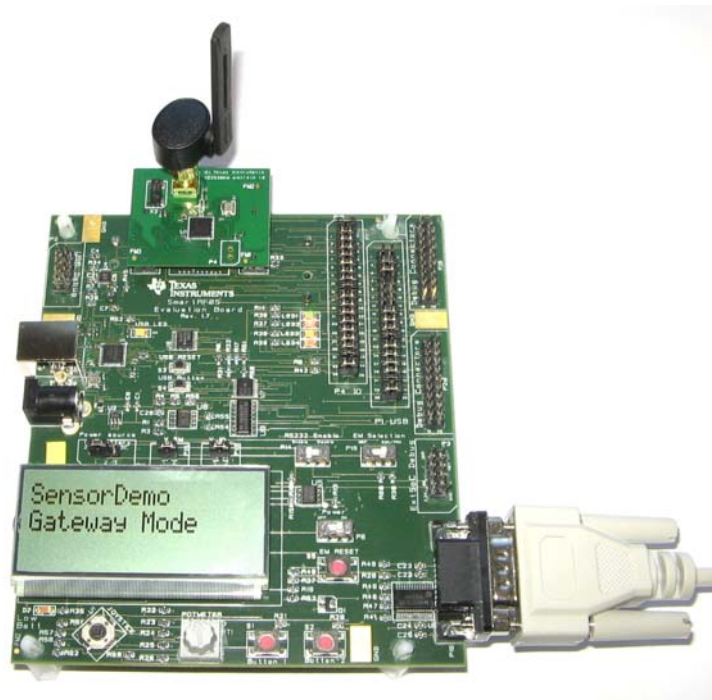

Figure 2 Gateway Node with serial cable
4. Press **joystick right** on the gateway node. This will let the node accept application binding requests from other nodes. LED 2 will be set ON to indicate that the node is accepting bind requests. The LCD on the EB board will display "Gateway Mode" as seen in Figure 2.